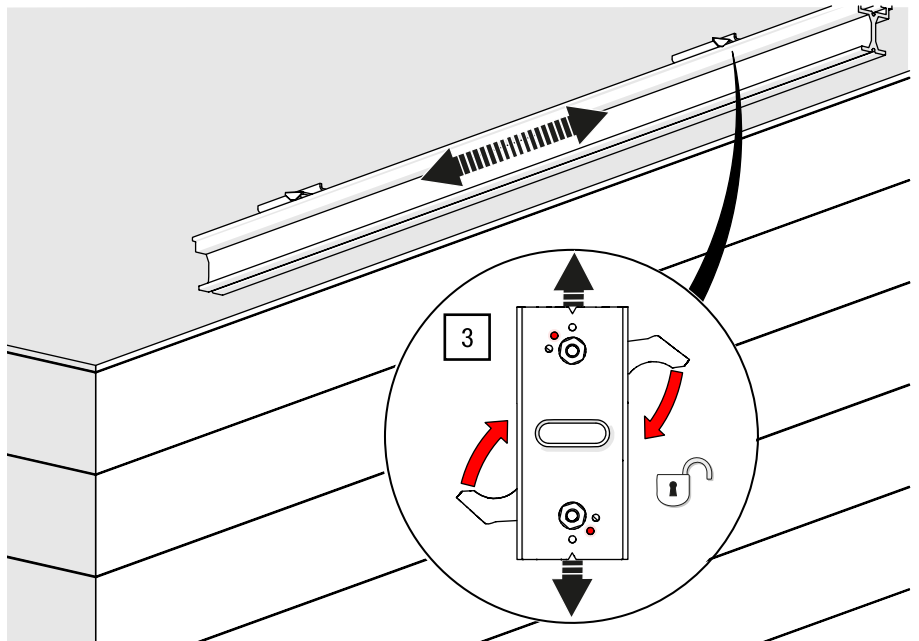
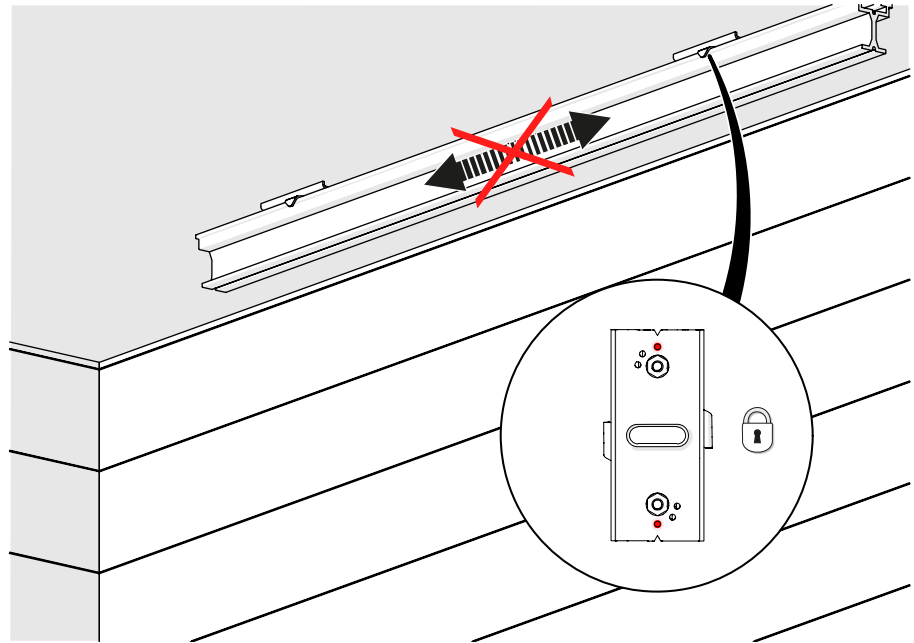

Fig. 55: Ceiling mounting – G-TWIST II in latching position 2
Fig. 56: G-TWIST II in latching position 3 (closed)
- G-TWIST II latching position 2 → 3 3. Position the track and then lock it in the third locking position (see Fig. 55 and Fig. 56).
✓ The track is now locked to the ceiling (see Fig. 56).